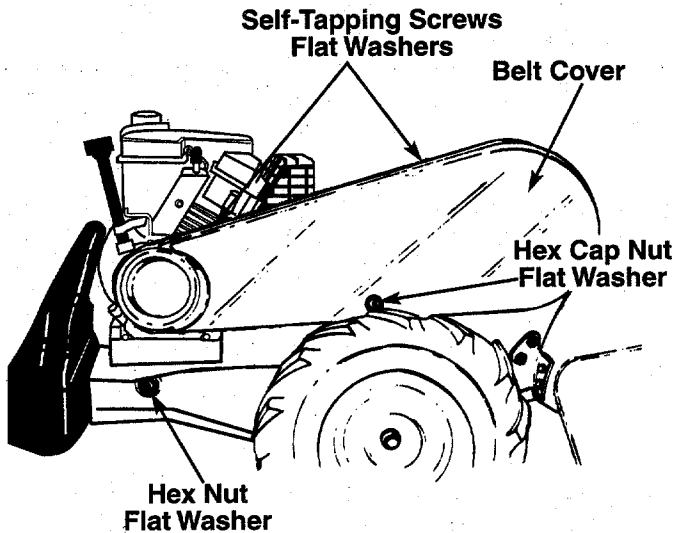

FIGURE 16.
2. Remove the belt cover from the left side of the tiller as follows. See figure 16.